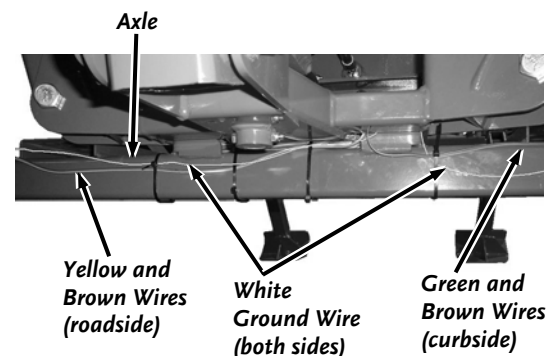

Figure 44
4. Guide the Wires between the Frame and Axle and then route the Yellow/Brown Wire Connector with a White Ground Wire along the Axle towards the roadside of the Backhoe and the Green/Brown Wire Connector with a White Ground Wire along the Axle towards the curbside (**Figure 44**).
9. Fasten the wires to the Axle with Cable Ties along with any excess wire from the Harness (**Figure 44**). Trim all Cable Ties with Wire Cutters.